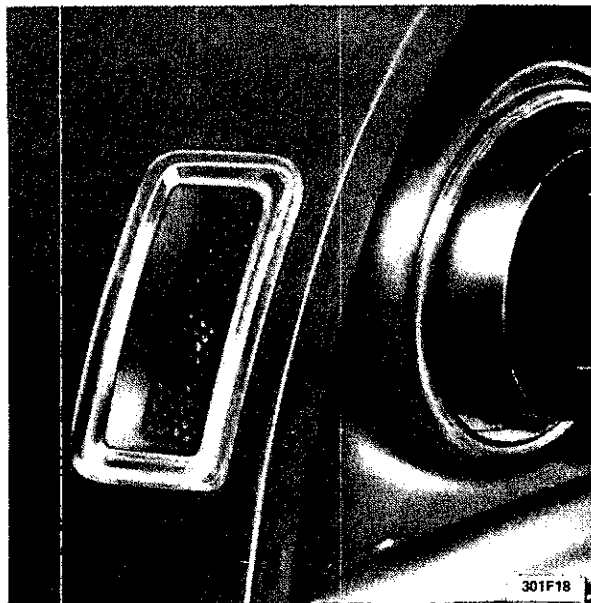

Figure 1F-18 Side Marker Light Location
5. Remove lamp housing. See Figure 1F-19.